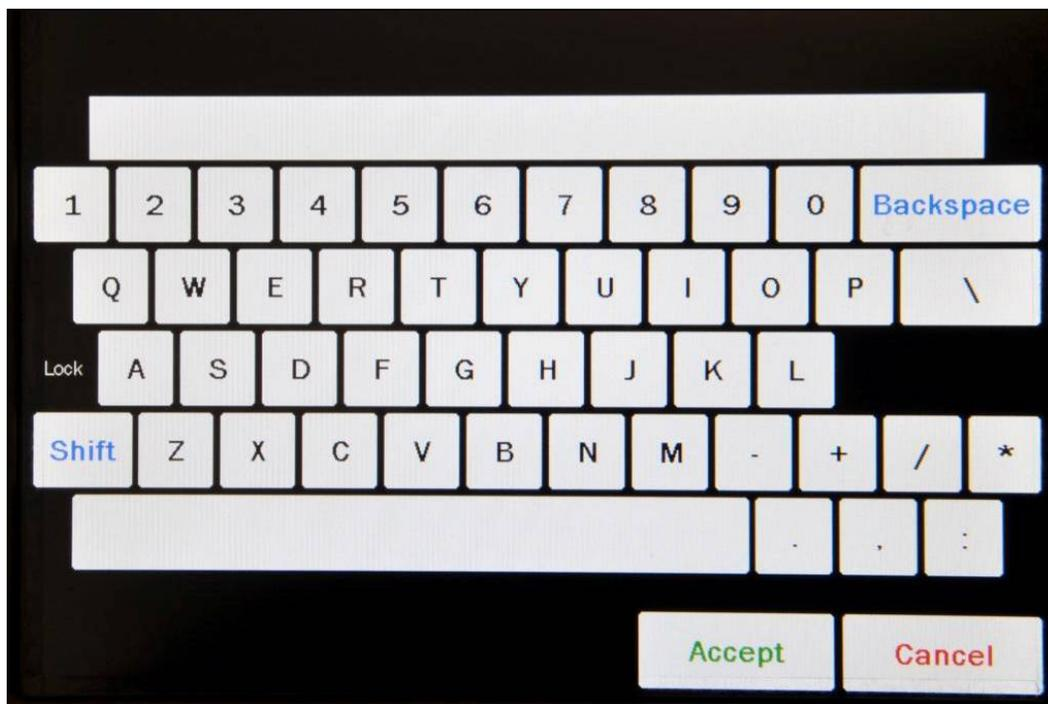

Figure 10-29 Alphanumeric Keypad Screen
To enter the first name for the Patient, touch the **First:** field box. Figure 10-29 Alphanumeric Keypad Screen will appear.
To enter the last name for the Patient, touch the **Last:** field box. Figure 10-29 Alphanumeric Keypad Screen will appear.
To enter the ID for the Patient, touch the **ID:** field box. Figure 10-29 Alphanumeric Keypad Screen will appear.
To enter the sex of Patient, touch the **Sex:** field box. Figure 10-29 Alphanumeric Keypad Screen will appear.
To enter the Physician name for the Patient, touch the **Phys:** field box. Figure 10-29 Alphanumeric Keypad Screen will appear.
To enter the Technologist ID/name performing the procedure, touch the **Tech:** field box. Figure 10-29 Alphanumeric Keypad Screen will appear.
To enter the Lot Number of the Dose, touch the **Lot Num:** field box. Figure 10-29 Alphanumeric Keypad Screen will appear.
2. Touch the **Last:** field box. Figure 10-29 Alphanumeric Keypad Screen will appear. Input the Patient's exact last name. If the exact spelling of the last name is not known, input the first letter of the last name and then touch the **WILDCARD** (%) button in the lower left of the alphanumeric keypad. For example, if you want to see all Patients with last names that begin with the letter "C", input "C%". Once the last name is input, touch the **ACCEPT** button. Figure 10-32 RBC Survival Measurement List Screen will re-appear with **Last:** field box populated with the entered search criteria. Touch the
3. Touch the **ID:** field box. Figure 10-29 Alphanumeric Keypad Screen will appear. Input the Patient's exact ID. If the exact spelling of the ID is not known, input the first character of the ID and then touch the **WILDCARD (%)** button in the lower left of the alphanumeric keypad. For example, if you want to see all Patients with IDs that begin with the number "3", input "3%". Once the ID is input, touch the **ACCEPT** button. Figure 10-32 RBC Survival Measurement List Screen will re-appear with **ID:** field box populated with the entered search criteria. Touch the **SEARCH** button. Any Patient that matches the requested search criteria will be displayed.